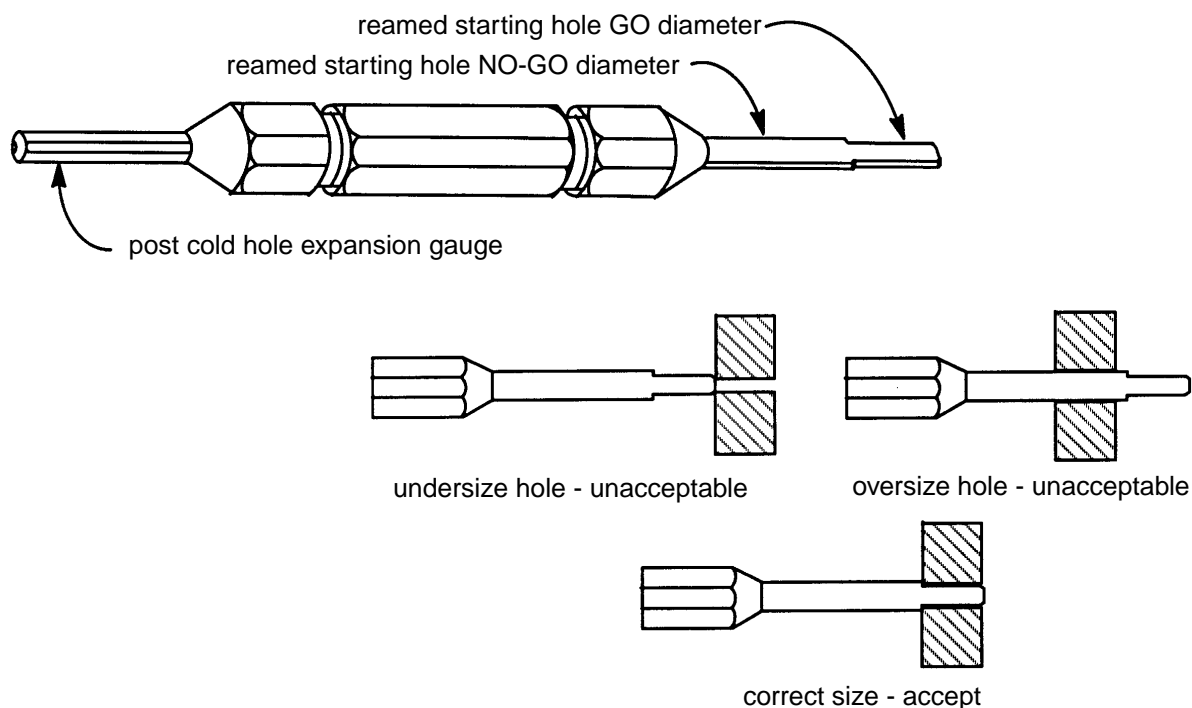

Figure 9 - Combination Gauge
- 5.2.11 **Combination Gauge:** The combination gauge (see Figure 9) consists of a reamed starting hole gauge and a post cold expansion gauge. The starting hole gauge is used to ensure that the reamed starting hole is within the specification tolerance of the STDN. If the reamed starting hole NO GO diameter fits into the reamed starting hole, reject the hole (see Figure 9). The post cold expansion gauge is used to ensure that the starting hole has been cold expanded to the correct diameter before a non-piloted finish reamer is used. If the post cold hole expansion gauge does not fit into cold expanded hole, reject the hole.